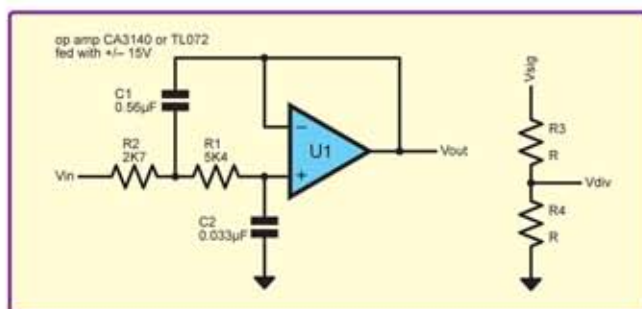

Fig.1. Copy of atferrari's circuit diagram
*I am trying to grasp properly the concepts of output impedance and input impedance. Regarding the first, I think I have a minimal idea, but trying to calculate it in a real case, I fail miserably. For the attached circuit [Fig.1] I need to know the source impedance.*
An intuitive understanding of the filter can be helped by considering the capacitors in Fig.1 to be open circuit at low frequencies and short circuits at high frequencies. At low frequencies (with the capacitors effectively removed) the circuit is simply a unity-gain op amp buffer with the input signal connected via the resistors. The high input impedance of the op amp means that the resistors have little effect. The whole circuit is simply a unity-gain buffer.